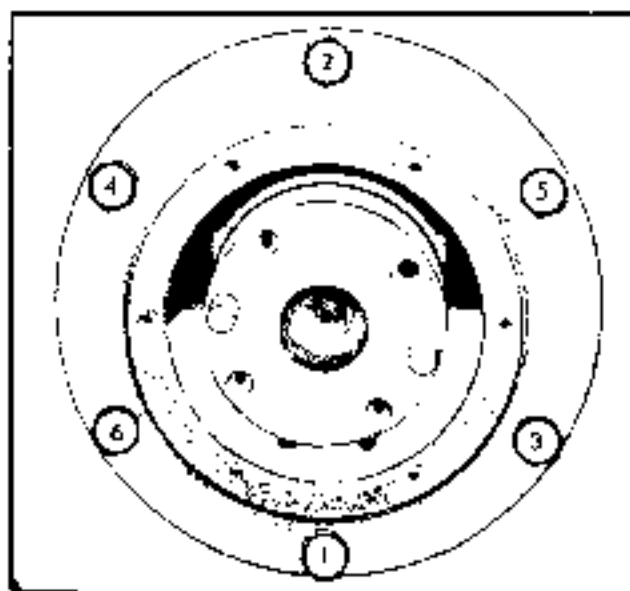

Fig. 1-31. Torquing Sequence
d. Before installing the center main or the front main-bearing cap, tighten the bolts in the rear bearing housing in the correct sequence and to the proper torque. Tighten these bolts a little at a time and in a crisscross manner until reaching the full torque value. Correct torque of these bolts is 55 to 60 foot-pounds. The proper torquing (figure 1-31) of this housing is very important as it will affect the alignment of the crankshaft. An incorrectly aligned crankshaft will cause premature bearing failure. Install a new dowel pin in the crankshaft.